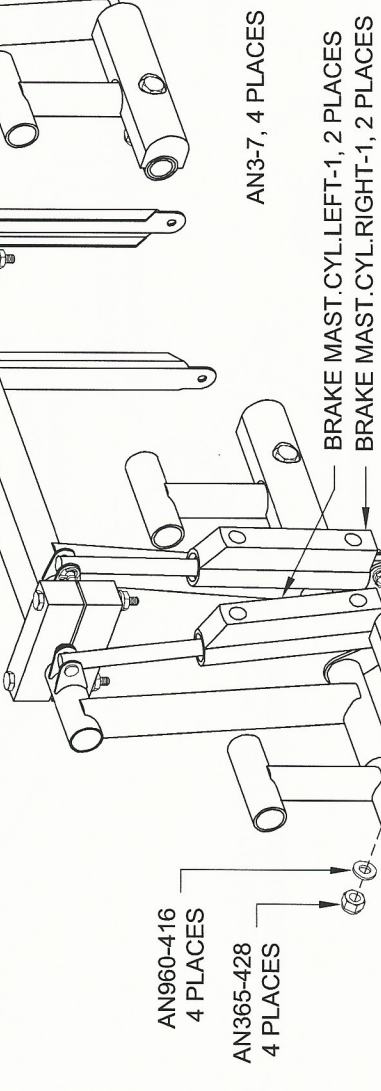

FIGURE 3: RUDDER PEDAL ASSEMBLY
Step 6: Secure the WD-1209 Brake Pedals and F-1290 Pedal Blocks to the WD-1211 Brake Pedal Torque Tubes using the hardware called out in Figure 3. File away any portion of the pedal blocks that interfere with the welds on the brake pedals or WD-1206 Rudder Pedals.
Step 7: Attach the master cylinders to the WD-1206 Rudder Pedals and WD-1211-L & -R Brake Pedal Torque Tubes using the hardware called out in Figure 3.